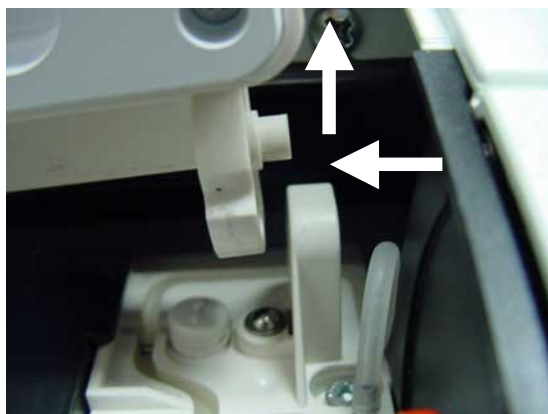

Fig. 3-10 Dismounting the measuring chamber cover
9. Dismount the measuring chamber cover by pressing it to the left and then upwards (see Fig. 3-10).